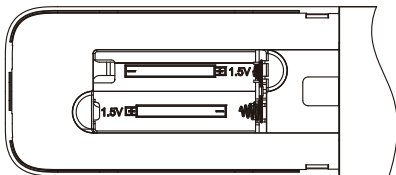

Figure 2.4
- 3) Take out the old batteries. Install two new AAA batteries according to the positive and negative polarities indicated (see Figure 2.4). Close the battery cover.